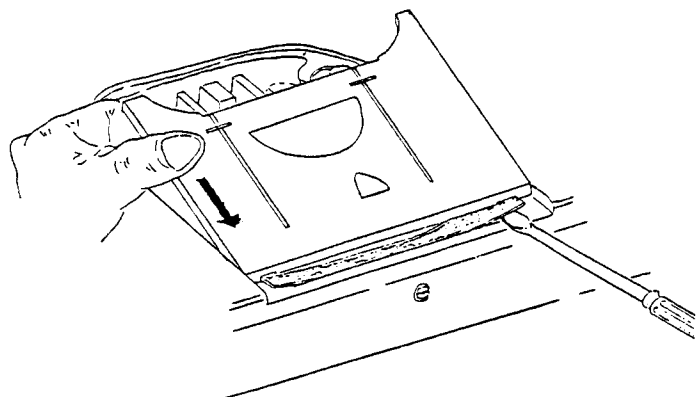

Fig. 8-2
1. Using a screwdriver, insert both ends of bed slide spring in groove provided on bed slide and pull bed slide toward front of machine into correct position. (Fig. 8-2).